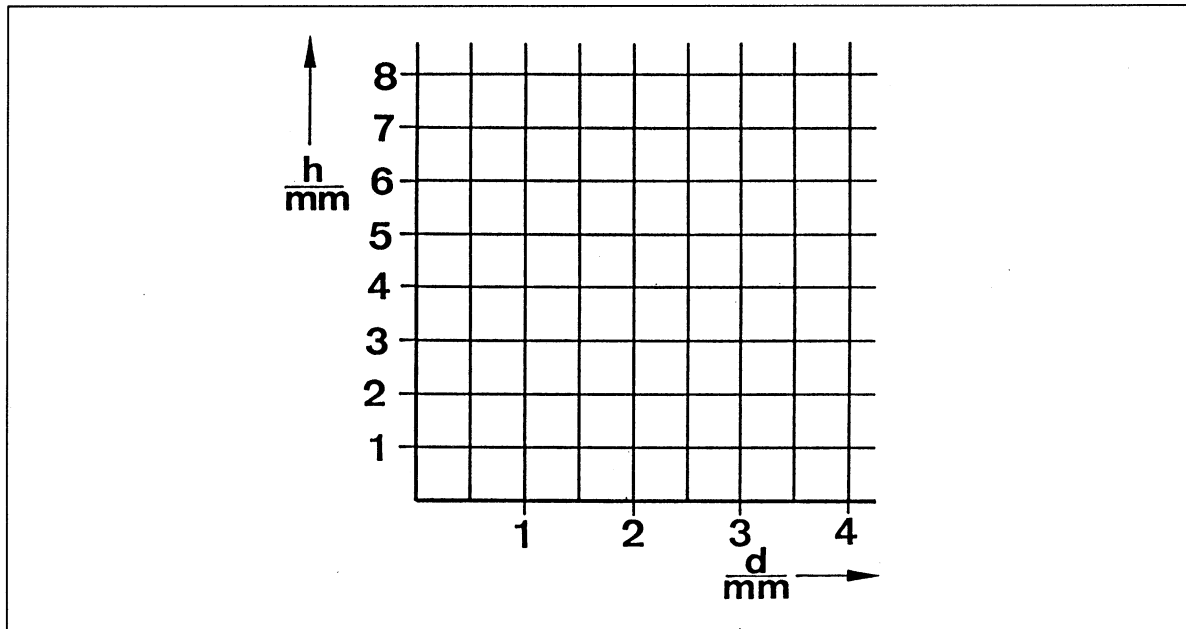

Abb. 4 Diagram showing how capillary rise depends on the diameter of the tubes.
15. Enter the values in the diagram in fig. 4.